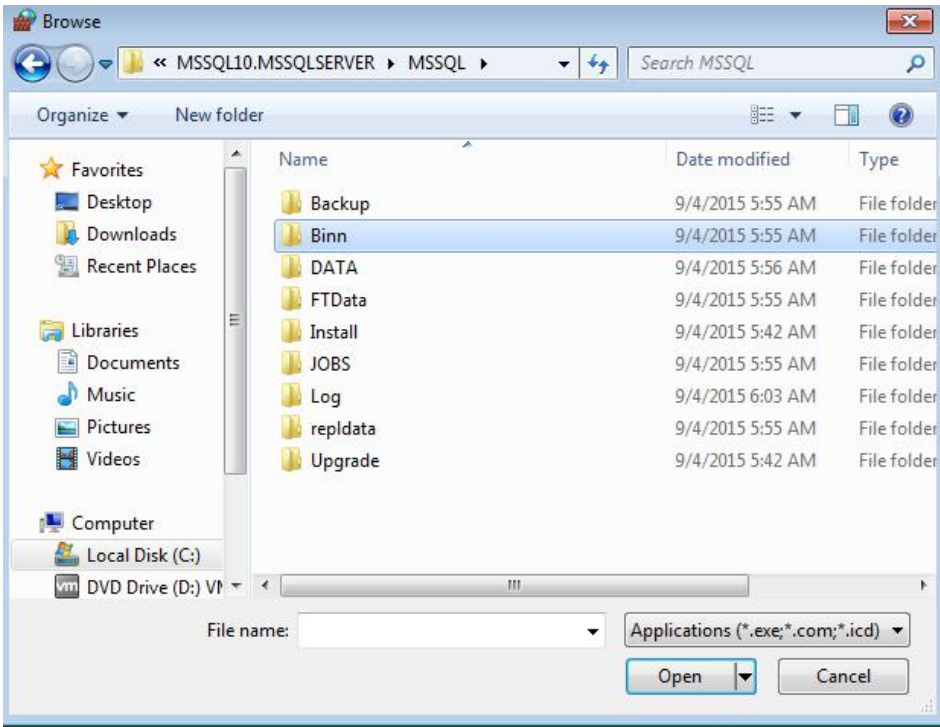

Fig.1.21 MSSQL
(9) Open "Binn" folder (see Fig.1.21).